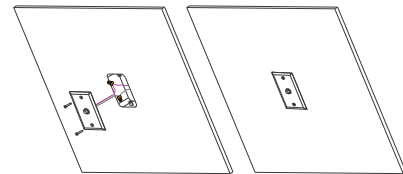

Figure 2-2
3. Fix the plate on the junction box with 2 screws(Figure 2-2).